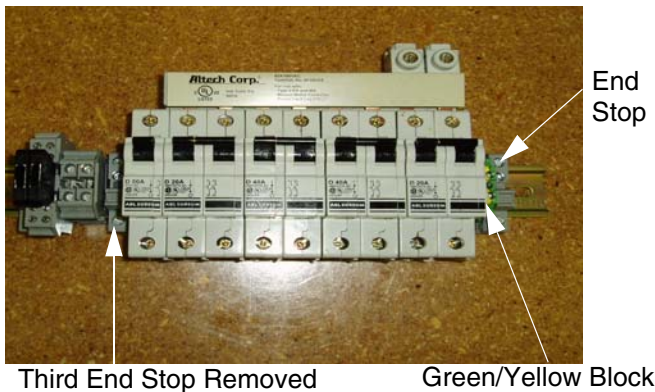

FIG. 10
4. Tighten screws on end stop and green/yellow terminal block on circuit breaker (see FIG. 10).
5. Loosen screws on third end stop (between terminal blocks and hose circuit breaker), and remove end stop from din rail. See FIG. 10.